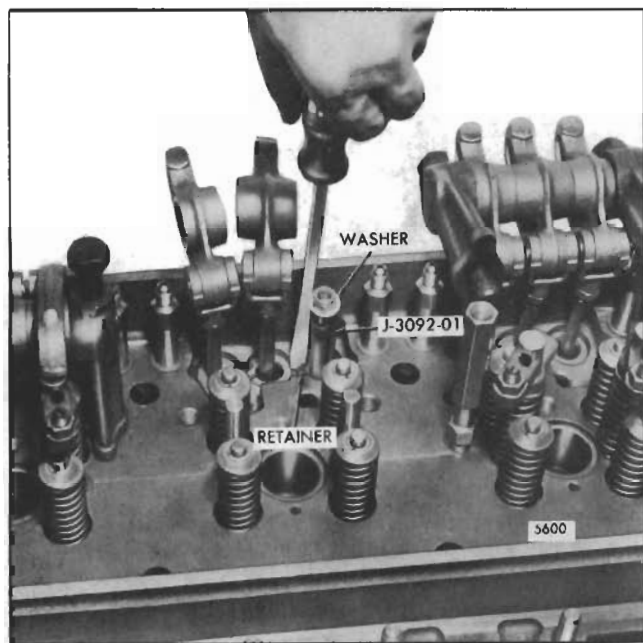

Fig. 3 - Removing Push Rod from Upper Side of Cylinder Head
5. **Remove the spring seat retainer** from the groove in the cylinder head (Fig. 3).